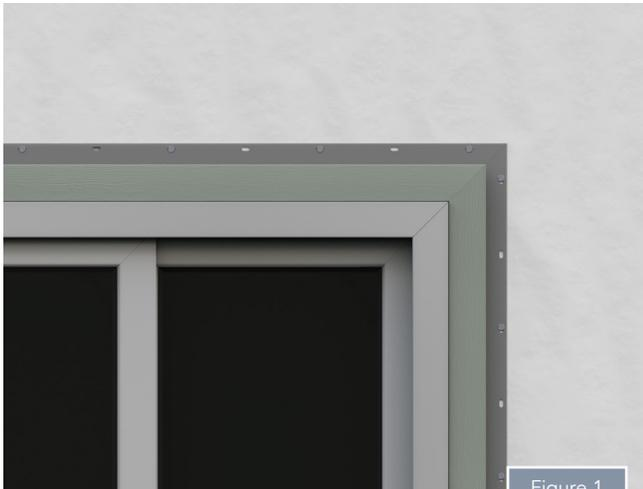

Figure 1
- Fasten the 1¾" "J" Trim to the wall around the opening every 8" to 12" along the nail hem using galvanized, stainless, or corrosion-resistant nails or screws (Figure 1).